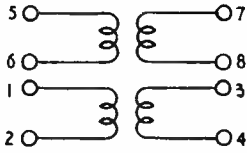

FIG. 1.
- STEP 3. Measure the induced voltage across coils 1-2, 7-8 and 3-4. Record all voltages in Fig. 1, and E_p & E_s in Table 1.